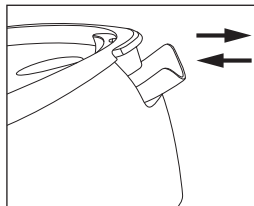

Abb. 3
- each time you press the steam supply button (8) «☁», the pump is switched on, the operation of which is accompanied by a characteristic sound;
- when the water in the tank (2) runs out, the pump sound will be much louder, turn off the device by pressing the on/off button (12), unplug the power cord (13), open the lid (3) (Fig. 3) pour water into the tank (2), close the lid (3) (Fig. 3), turn on the device and continue working;
- make sure that the steam pipe (11) doesn't bend and twist during the operation.
- During breaks and after operation place the iron on the steam station body (1) in the iron installation
1. Make sure that the power plug (10) is not inserted into the mains socket.
2. Grasp the lid (3) and open the filling hole of the water tank (2) (Fig. 3) fill the tank (2) to the maximum water level «MAX».